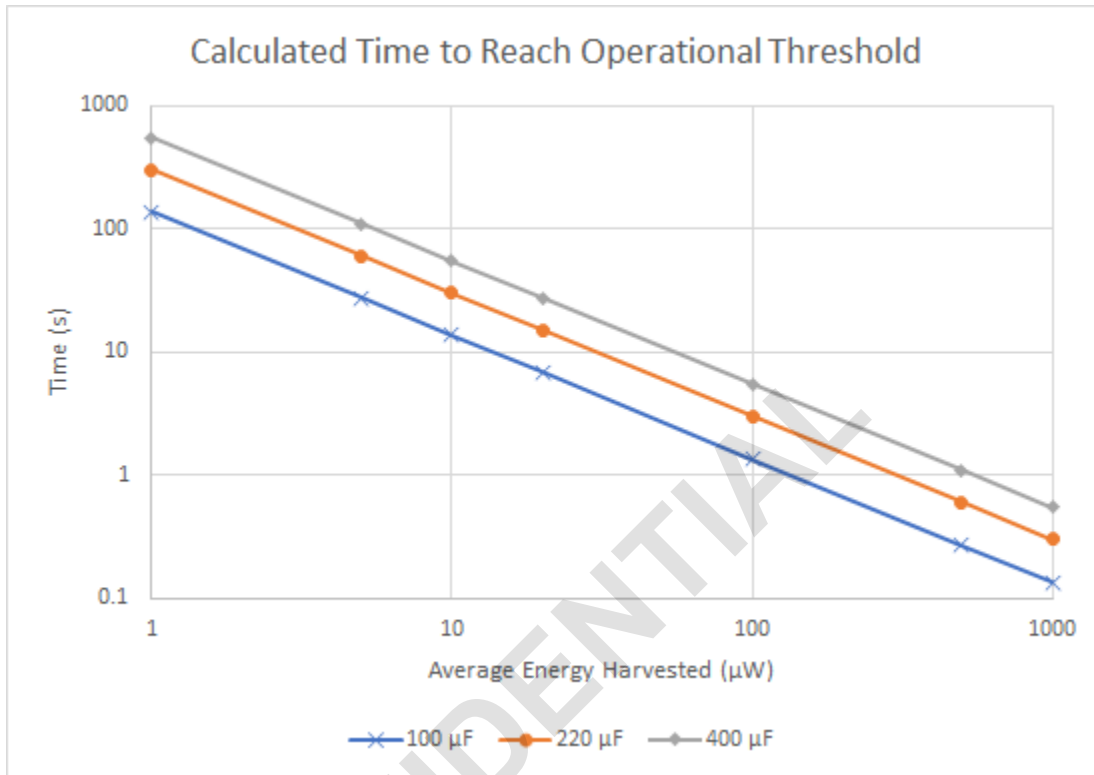

Figure 2 - Time to Reach Operational Threshold
- Figure 2 - Time to Reach Operational Threshold
The time it takes for VSTORE to reach this threshold will depend on the size of the capacitor connected to VSTORE and the amount of energy harvested. Figure 2 is a calculation of the time for VSTORE to reach this threshold based on the capacitor size (100, 220, and 400 μF), the rate at which energy is harvested (in μW) and the PMU's storage efficiency.